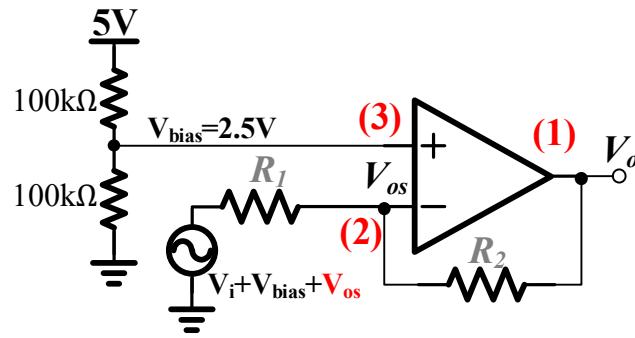

Fig. 6.12 Measurement of the offset voltage
4. Explore the frequency response of the inverting OPAMP with offset cancelation as shown in Fig 6.12, $R_1=1k\Omega$, $R_2=100k\Omega$, and fill in the corresponding value in Table 6.3 as shown below in the report.